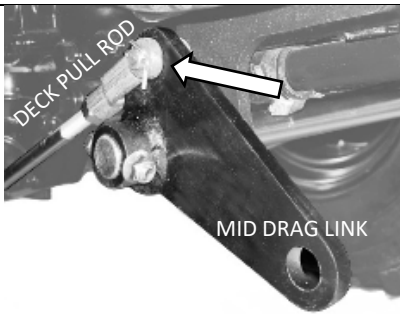

Figure 3B
3. Attach the Deck Pull Rods (item 18 – already attached to the Rear Drag Links) to the Mid Drag Links (items 23 & 25) as shown in figure 3B. Install both sides.